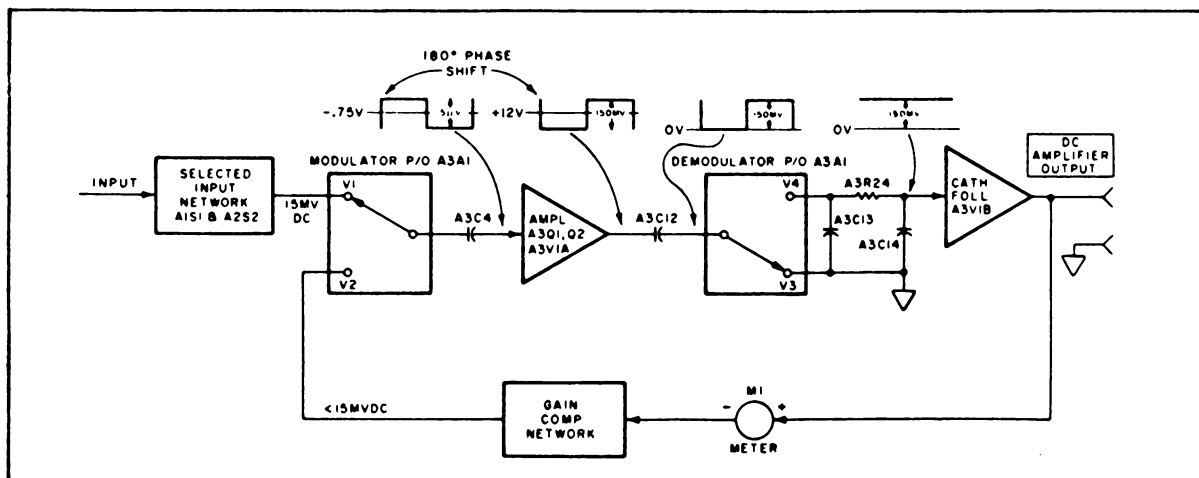

Figure 4-9. Modulator-demodulator mechanical analogy.
**Mechanical Analogy.** Now refer to the mechanical analogy schematic in figure 4-9 as you learn more about the modulator, demodulator, and feedback circuits.
The feedback network drives the meter and determines the DC gain of the amplifier. The feedback is varied depending on the position of the function and range selectors (fig. 4-9).